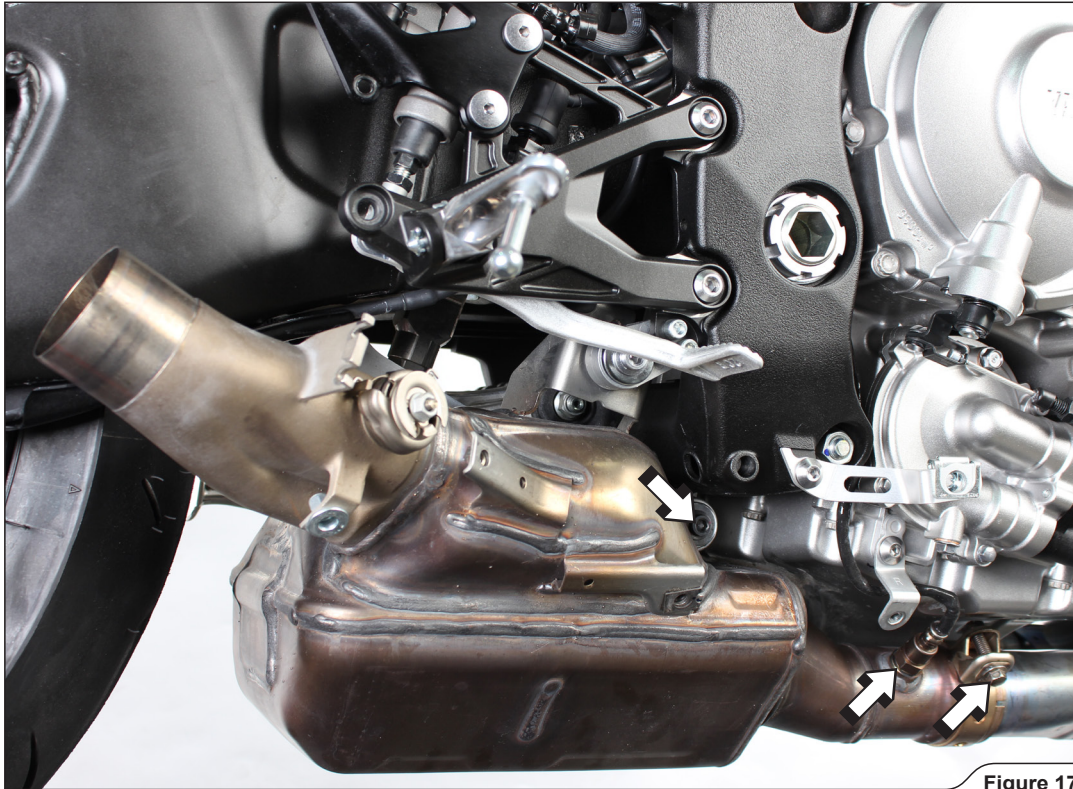

Figure 17
15. Unscrew marked bracket bolts on both sides of the motorcycle and carefully remove stock collector off the motorcycle (Figure 17, 18).